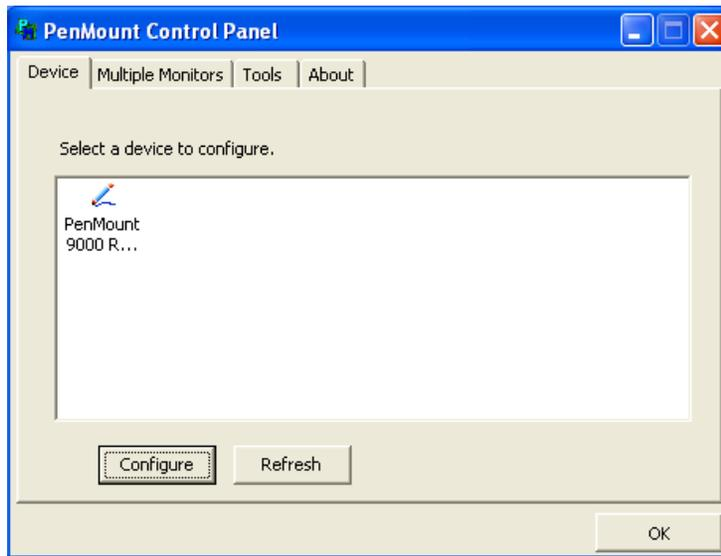

Figure 3-8: Configuration Screen
Step 5: The configuration screen in **Figure 3-8** appears.
Step 6: Double click the PenMount 9000 icon as shown in **Figure 3-8**.